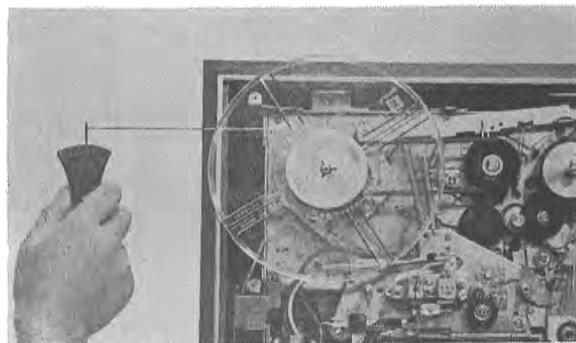

Fig. 22
c) Back tension.....15-36gr.....Fig. 22